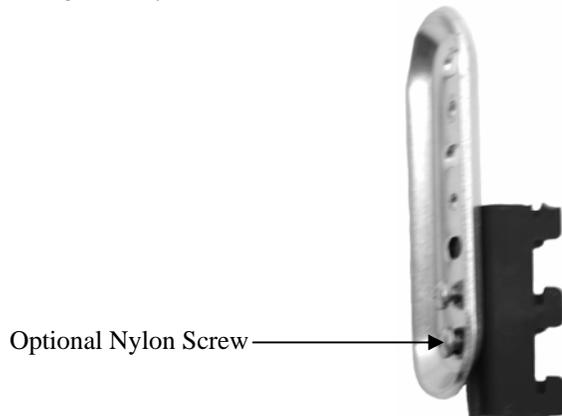

Figure 2
2. Secure the remaining adapter bracket; with the tabs facing up, to the lower two holes in the mounting bracket (supplied with your mounting assembly) by loosely installing two 10-24 pan head screws (see Figure 2).